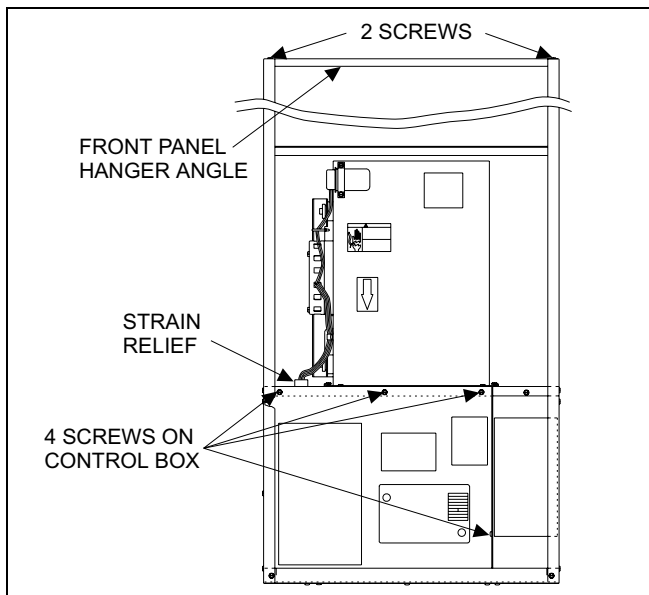
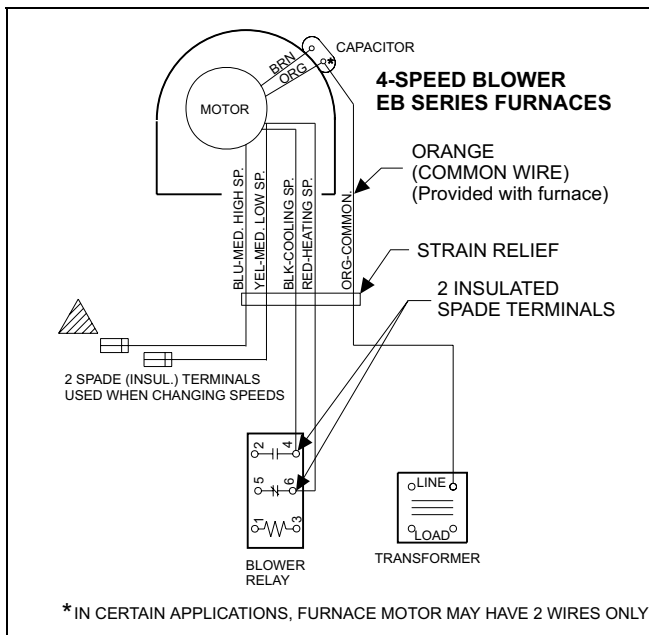
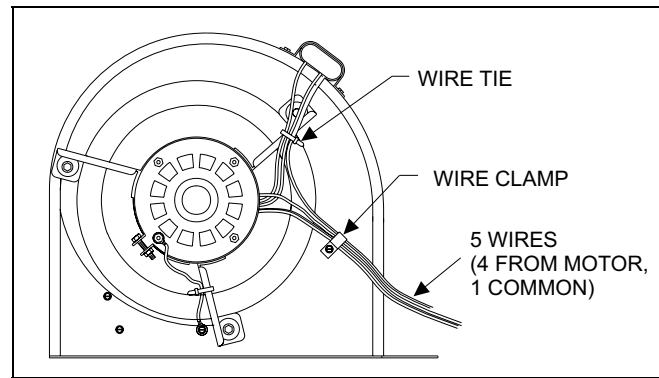

FIGURE 1
FIGURE 2
FIGURE 3
3. Remove the control box cover by removing four screws. See Figure 1. Discount two insulated spade terminals (cooling and heating speeds) from blower relay inside the control box (terminals 4 & 6). See Figure 2.
5. Remove wire clamp screw and remove wire clamp. See Figure 3. Take the strain relief out. See Figure 1. Disconnect the orange common wire flag terminal from the capacitor. See Figure 2.
In order to install A-Coil, the front panel hanger angle will have to be removed by removing two screws. (See Figure 1). Also refer to Installation Instructions of the furnace. Replace the angle after installing the A-Coil.
2. Install the orange common wire to the capacitor. See Figure 2. Install the heating speed wire to terminal #6 on the blower relay and the cooling speed wire to terminal #4 on the blower relay. See Figure 2. Refer to Table 1 and 2 for correct heating and cooling speed, and wire colors. All four speed wires on the blower motor have a pre-insulated dummy terminal. Remove the dummy terminal only off the two terminals that you will be using. See Tables 1 & 2.
3. Reinstall wire clamp, wire tie and strain relief in the furnace. See Figures 1 & 3.